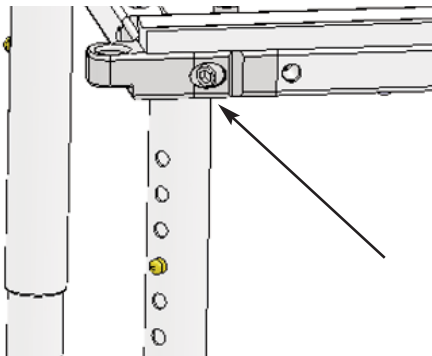

Figure 16
**B Fasteners:** Over time the screws and washers on the chair may become loose. It is very important that these are checked and securely tightened before each use. Failure to do so could cause a part to dislodge from the chair (Refer to Figure 16).